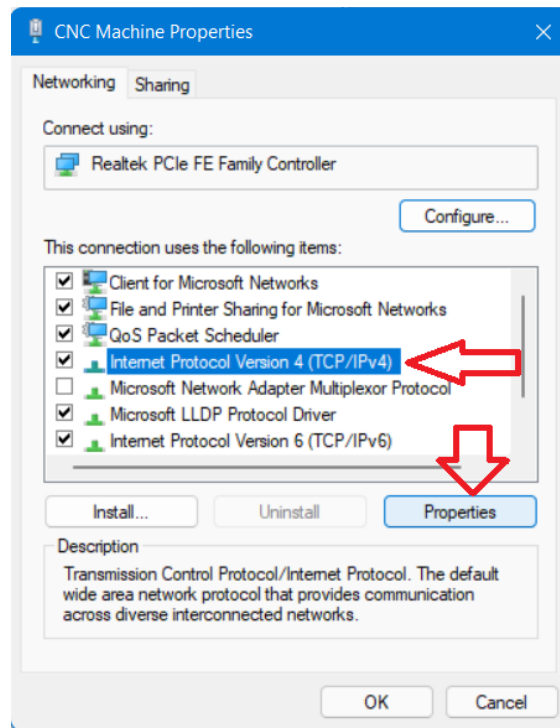

Figure 17: IPv4 Properties
- 4- On the popup window find and select the 'Internet Protocol Version 4(TCP/IPv4)' row and click the Properties button. See Figure 17.